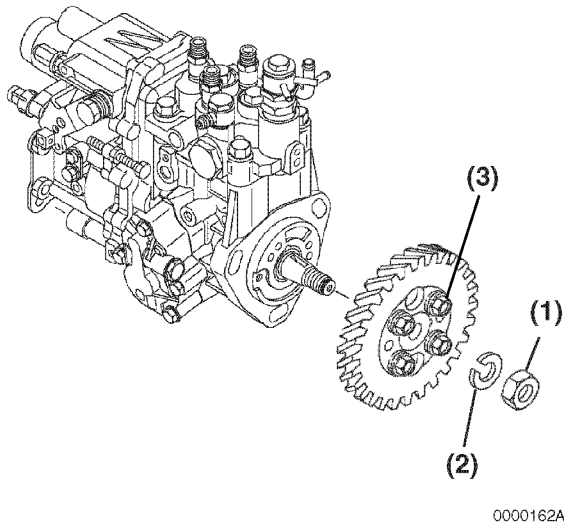

Figure 7-13
18. Do not loosen or remove the four bolts (Figure 7-13, (3)) retaining the pump drive gear to the hub. Only remove the single drive gear nut (Figure 7-13, (1)) and washer (Figure 7-13, (2)), leaving the hub attached to the gear.
19. Hold the gear train using a large socket wrench on the crankshaft pulley nut. Loosen the fuel injection pump drive gear retaining nut (Figure 7-13, (1)) and turn it out to the end of the fuel injection pump shaft.